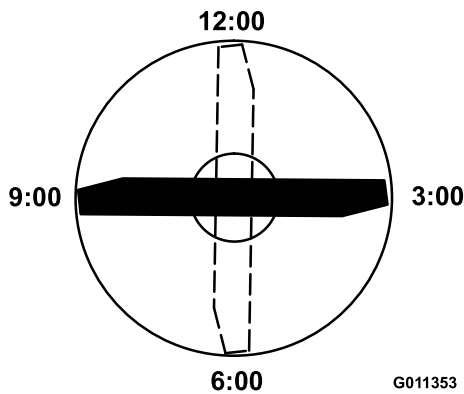

Figure 69
3. Position the cutting edge of the marked end of the blade at the 12 o'clock position (straight ahead in the direction of mowing) and measure the height from the table to the cutting edge of the blade (Figure 69).
4. Rotate the marked end of the blade to the 3 o'clock and 9 o'clock positions and measure the heights (Figure 69).